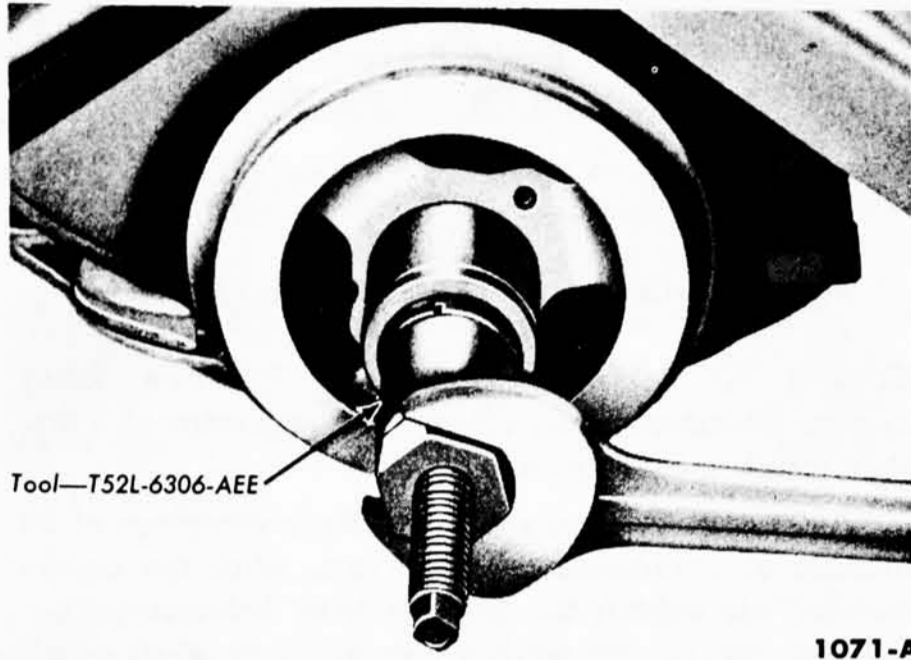

Fig. 20—Damper Installation
2. Align the damper keyway with the key on the crankshaft, and start the damper on the shaft. Press the damper on the shaft (Fig. 20). Install the lockwasher and cap screw, then tighten the capscrew to 85-95 foot-pounds torque. If the car has power steering, install the